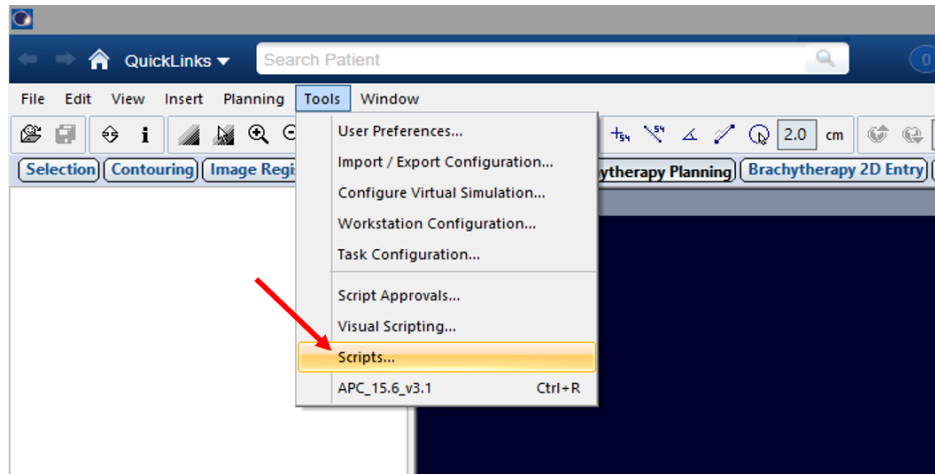

Figure 1: How to access scripts within the Eclipse treatment planning system.
- To run the script (or any script within Eclipse), go to Tools → Scripts in Brachytherapy Planning or External Beam Planning (Figure 1)